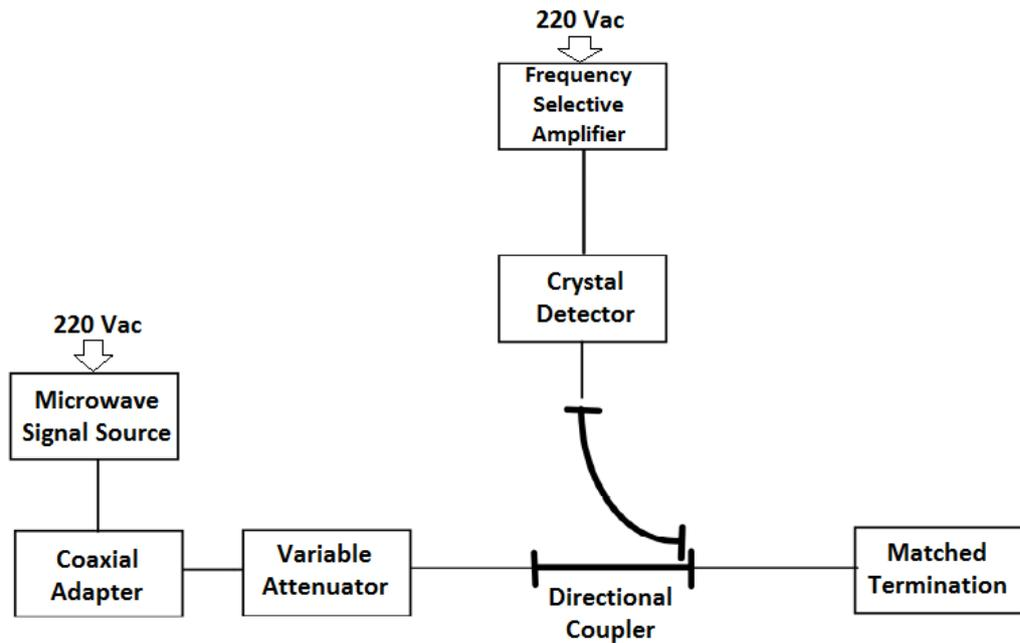

Figure 4.7.8. Setup diagram for directivity measurement.
- (1) Set the Variable Attenuator to 20.
- (2) Read the SWR indicator. Use this value as a reference. Record the attenuator setting (20) in Table 4.7-1 A3.
- (3) Change the coupler's orientation as specified in Fig. 4.7.8 and/or Figure 4.7.9.